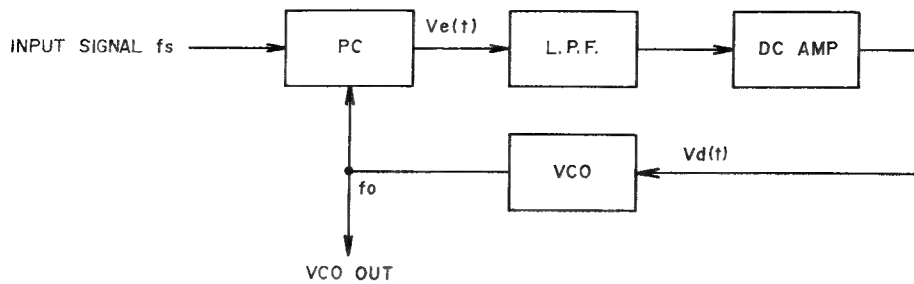

Fig. 13 PLL Circuit
PLL circuit is a kind of feedback circuit and is comprised of a Phase Comparator (PC), a Low Pass Filter (LPF), a Direct Current Amplifier (DC Amp) and a Voltage Control Oscillator (VCO) as shown in Fig. 13. The PC compares input signal  $F_s$  and VCO oscillator output and generates the difference in signal voltage  $V_e(t)$  proportionately to this phase deviation. This  $V_e(t)$  passes LPF and the DC Amp and becomes control voltage. This control voltage supplied to VCO and VCO oscillation frequency is DC controlled. When there is no input signal  $F_s$ , because there is also no  $V_e(t)$ , control voltage  $V_d(t)$  becomes zero, and VCO maintains a \*Free-running oscillation frequency. When a signal enters, VCO oscillation frequency  $F_o$  is controlled to narrow the difference between  $F_s$  by means of feedback as described above, and the PLL circuit assumes a synchronous condition. This is referred to as input signal lock. (When the difference between  $F_o$  and  $F_s$  is too large, the differential signal frequency becomes
Accordingly, for composite stereo signal demodulation, the sub carrier used for demodulation at the transmitter must be the same uniform 38 kHz signal as the frequency and phase. If the 38 kHz waveform is asymmetrical, channel separation will become poor. At the PLL employed MPX stereo demodulator circuit, as shown in Fig. 13 first a 76 kHz signal is oscillated and when this passes the divider, a symmetrical 38 kHz signal is obtained.